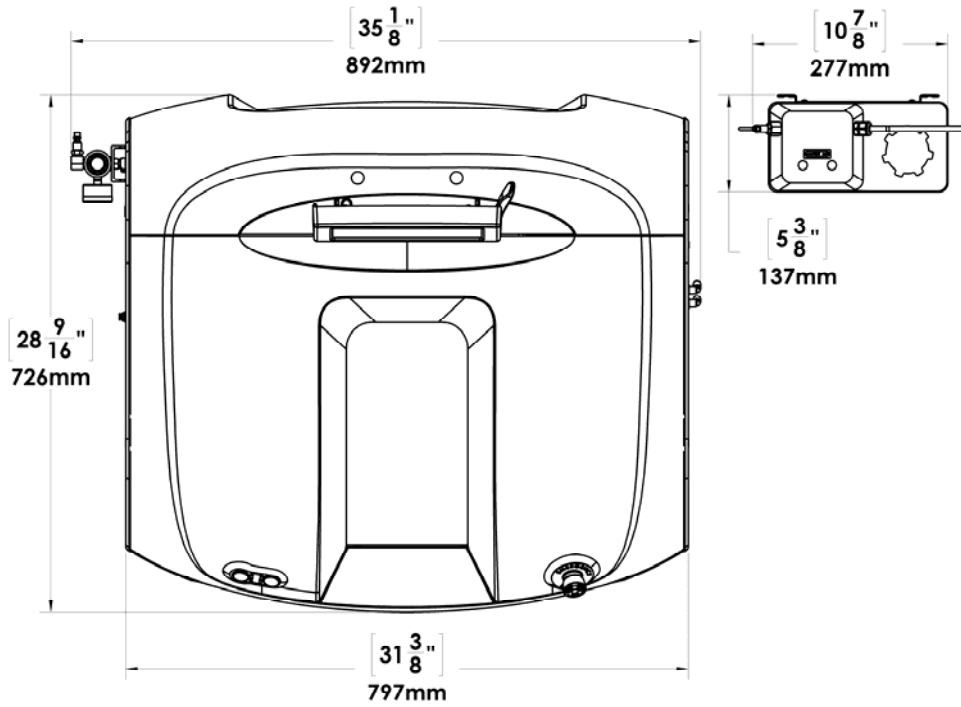

Figure 1.6: Generator and mister footprints
1. Verify that the counter top is at least 30" deep (front to back) and 32" wide and that it has under-clearance for the vacuum unit and electrical supply lines. Additional space behind or to the side of the Axiom should be provided if the mister is on the counter. See Figure 1.6.